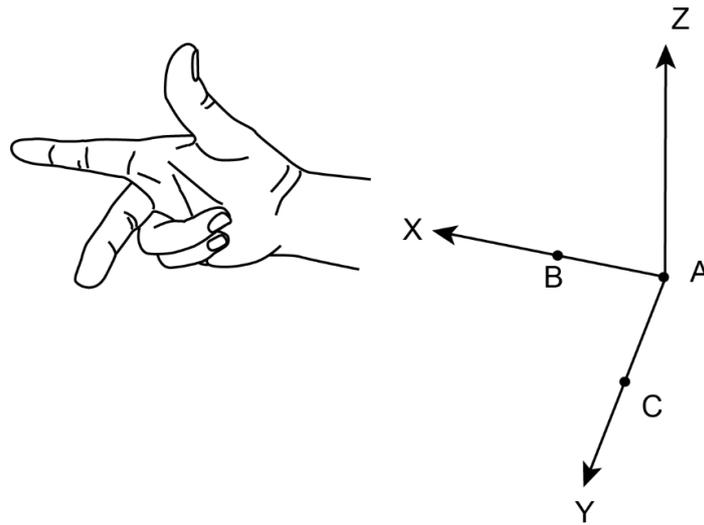

Figure 3.3 Area
- Area: User coordinate system is created by three-point calibration method. Move the robot to three points $A(x_1, y_1, z_1)$, $B(x_2, y_2, z_2)$, and $C(x_3, y_3, z_3)$. Point A is defined as the origin and the line from point A to Point B is defined as the positive direction of X-axis. The line that point C is perpendicular to X-axis is defined as the position direction of Y-axis. And then the Z-axis can be defined based on the right-handed rule, as shown in Figure 3.3.